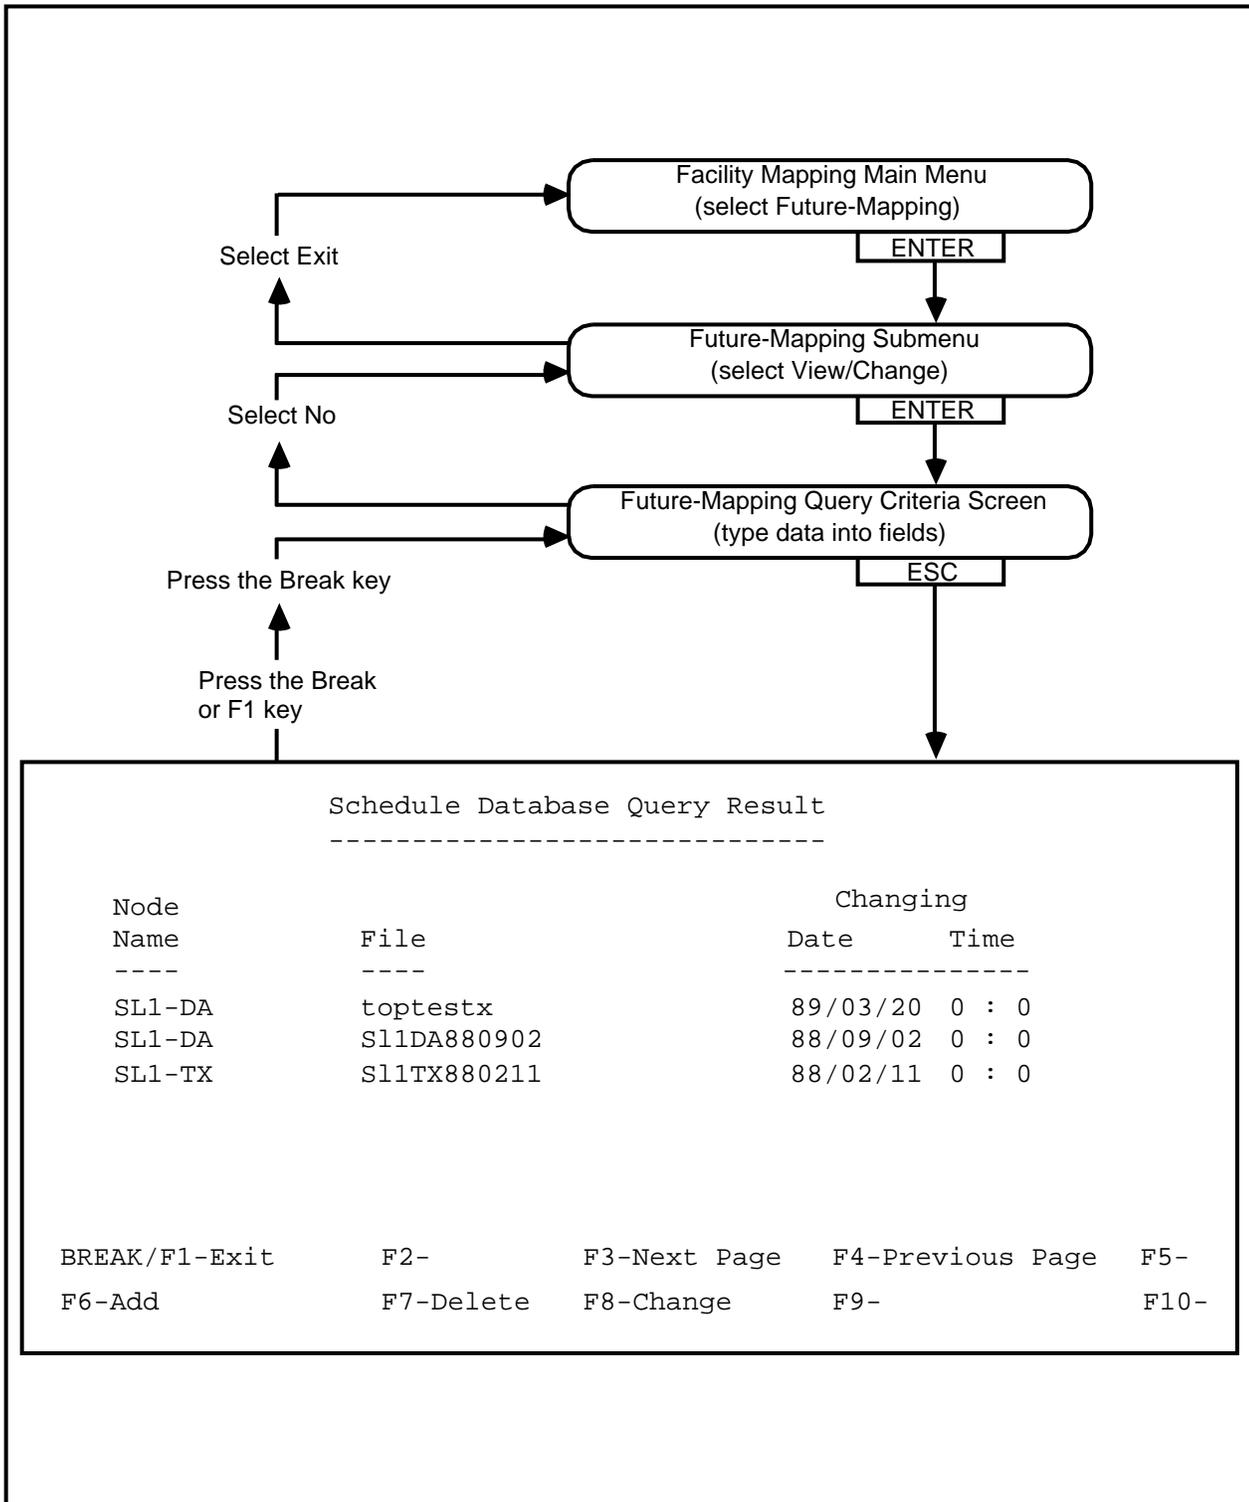

Fig. 7-9
7.21 The Procedure for Viewing the Mapping Schedule. To query the mapping schedule (see Fig. 7-9) proceed as follows: